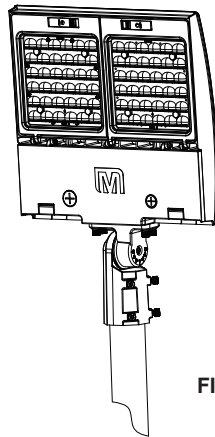

FIG. 2
2. Tighten the four (4) set screws on the slipfitter to secure it to the pole. (See Fig. 2).